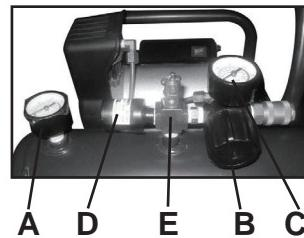

FIGURE 5
PRESSURE SWITCH (D) FIG.5. The pressure switch automatically starts the motor when the tank pressure drops below the factory set "Cut-In" pressure. It also stops the motor when the air tank pressure reaches the factory set "Cut-Out" pressure.
REGULATOR (B) FIG.5. The air pressure coming from the air tank is controlled by the regulator. Turn the regulator knob clockwise to increase pressure and counterclockwise to decrease pressure. To avoid minor readjustment after making a change in the pressure setting, always approach the desired pressure from a lower pressure. When reducing from a higher to a lower setting, first reduce the pressure less than that desired, then bring it up to the desired pressure. Depending on the air requirements of each particular accessory, the outlet regulated air pressure may have to be adjusted while operating the accessory.
OUTLET PRESSURE GAUGE (C) FIG.5. The outlet pressure gauge indicates the air pressure available at the outlet side of the regulator. The pressure is controlled by the regulator and is always less than or equal to the tank pressure.
TANK PRESSURE GAUGE (A) FIG. 5. The tank pressure gauge indicates the reserve air pressure in the tank.
SAFETY VALVE (E) FIG. 5. If the pressure switch does not shut off the air compressor at its "Cut-Out" pressure setting, the safety valve will protect against high pressure by "popping out" at its factory set pressure (slightly higher than the pressure switch "Cut-Out" setting).
9. Pull ring on safety valve (E) Fig. 5, allowing air to bleed from the tank until tank pressure is approximately 20 psi. Release safety valve ring.
NOTE: If drain valve is plugged, pull ring on safety valve (E) Fig. 5, and hold until air pressure has been released. The valve can then be removed, cleaned, and reinstalled.
4. Pull ring on safety valve (E) Fig. 5, allowing air to bleed from the tank, until tank pressure is approximately 20psi. Release safety valve ring.